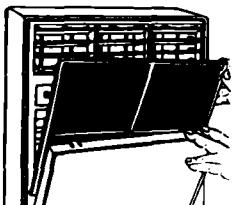

Figure 5
The HEAT selection (figure 5) provides quiet, efficient circulation of warm air, heating the room. Turn the selector to the HEAT setting and set thermostat at “1.” A slight heat odor may come from the unit when first switching to heating after the cooling season is over. This odor, caused by fine dust particles on the heater, will disappear quickly.
- On slider-casement models, press down on the top of the front panel. Gently pull the top of the panel out from the cabinet. Pull the filter straight up and out. See figure 5.